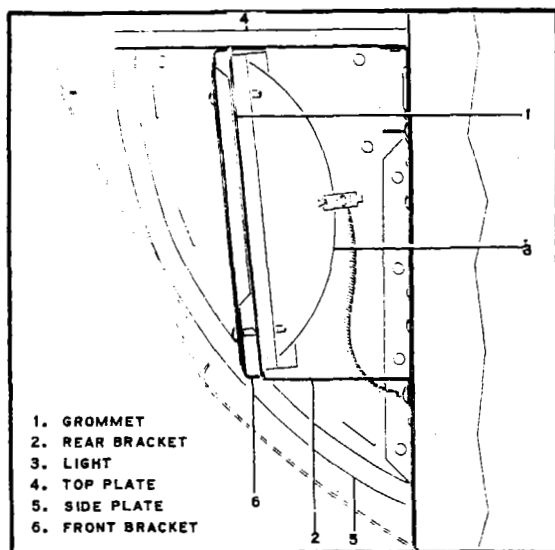

Figure 11-66. Landing Light Inst.
- b. Remove the two self-locking nuts from the lower screws passing through both rear and front brackets (2 and 6, Figure 11-66.)
- d. Disconnect the electrical leads from the rear of the light (3) and remove the light.